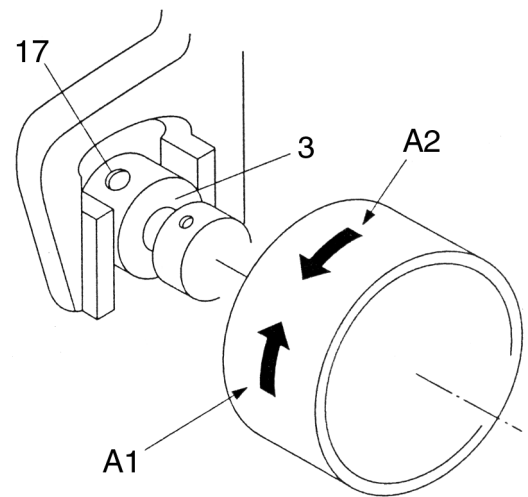

Fig. 18
- Loosen the fastening screw 17 on the feed eccentric 3 (fig. 18).